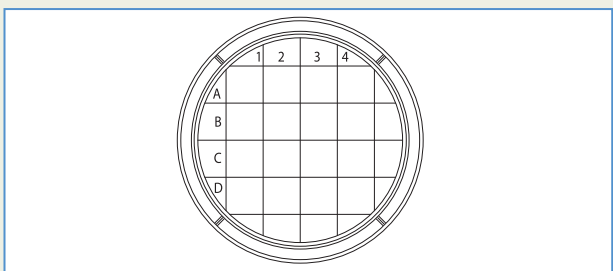

Figure 1:
- Graduation and division into 10 mm squares to enable quick and easy analyses (Fig. 1)